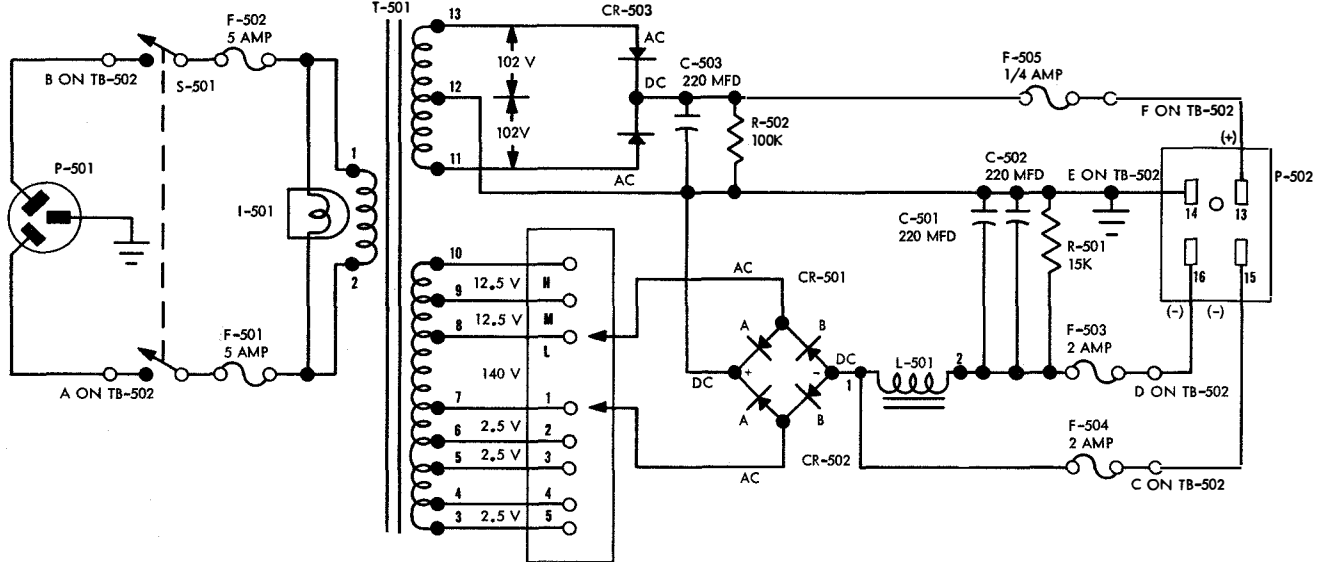

Figure 2-19. Power Supply PP-987/U, Schematic Diagram
c. POWER SUPPLY PP-987/U. (See figure 2-19).—Input power, 115 volts ac, is obtained through three-conductor plug P-501, one prong of which is grounded. Switch S-501 applies the input power to the primary of T-501 through fuses F-501 and F-502. Pilot light I-501 is connected across the primary and indicates circuit energization. Secondary number 1, with an output of 140 volts ac across terminals 7 and 8, is connected to the selenium rectifiers CR-501 and CR-502. These selenium rectifiers are connected in a full wave rectifier bridge circuit. Since current can travel in only one direction in a selenium rectifier, the ac is rectified into dc. The selenium rectifier decreases in efficiency as it ages, therefore adjustment is provided by the taps on the secondary of the transformer. Output terminals 2, 3, 4, and 5 provide an additional 2.5 volts each in that order, and terminals M and H provide an additional 12.5 volts each in that order. The output of the selenium rectifiers is filtered by L-501, C-501, and C-502. R-501, the bleeder resistor, is connected across the output to improve voltage regulation. The positive side of the